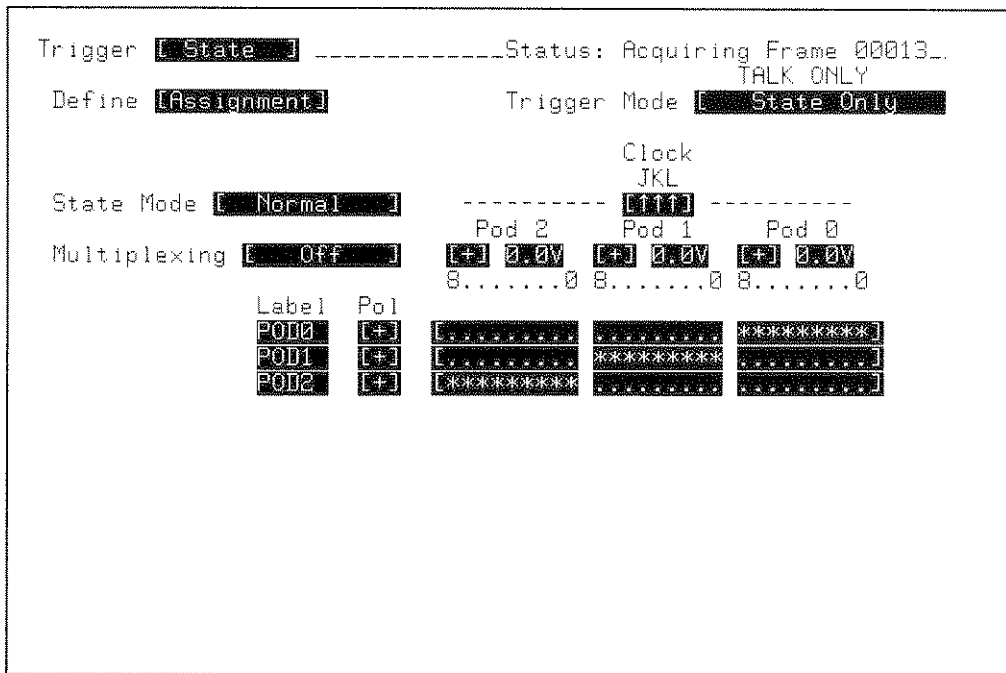

Figure 9-29. TRIGGER State / Define [Assignment] Menu
3. Configure the TRIGGER State / Define [Assignment] menu as shown in figure 9-29.